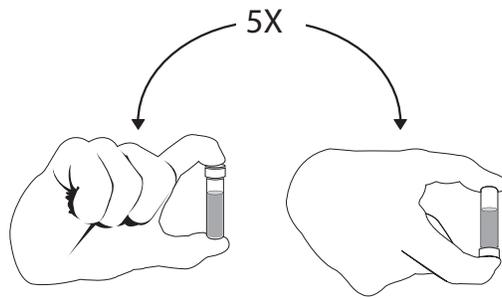

Fig. 11 Mixing Sample
5. Mix urine sample well by inversion. (Fig. 11).